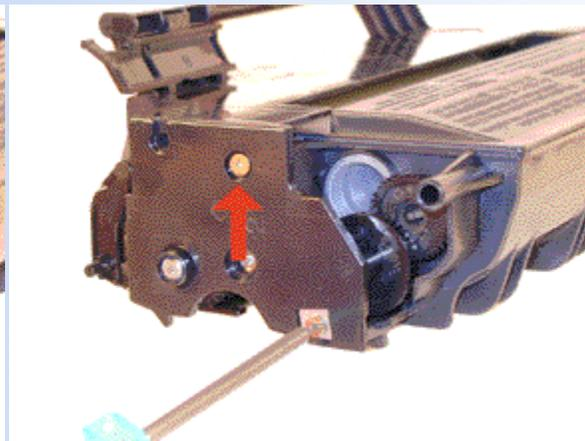

FIGURE 9
3. Remove the two copper colored screws from the left side of the cartridge. See Figure 9